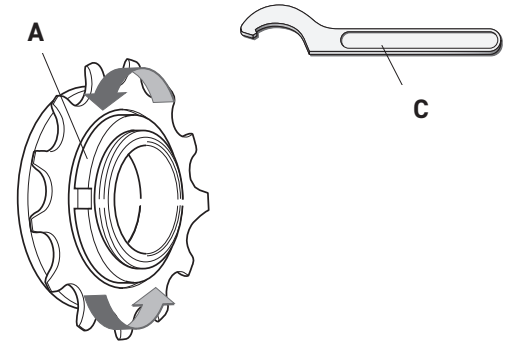

Fig. 9
- Tighten the ring nut (A - Fig. 9) using a hook wrench with a square nose (C - Fig. 9).